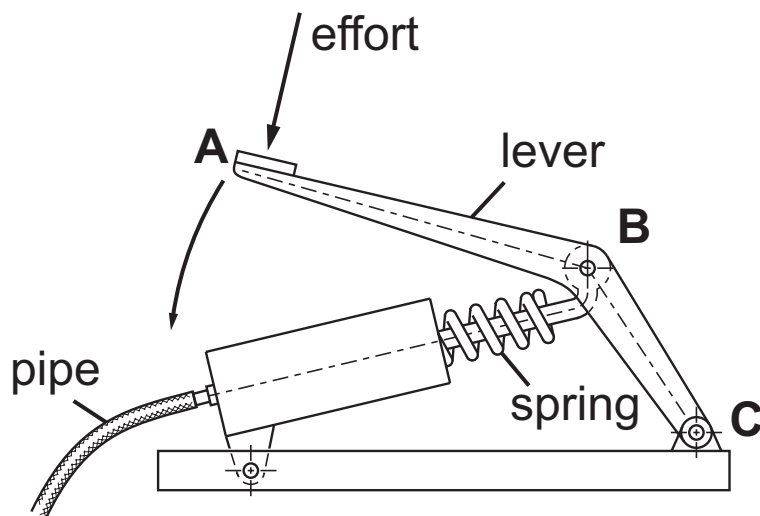

Fig. 8
- 10** A designer has developed a pump for inflating tyres. A sketch of the pump is shown in **Fig. 8**.